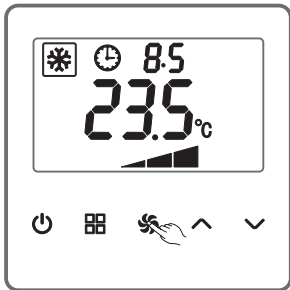

Figure 4
(1) The unit is timed to start or stop, ranging from 0.5 to 24 hours.
(2) As shown in the Figure 4, after starting the unit, to keep pressing  (SPEED) for about 5 seconds (press keeping hereinafter lasts 5 seconds) can disable or enable the timer. When enabling the timer, the symbol  flashes. A press of  (UP) or  (DOWN) increases or reduces 0.5